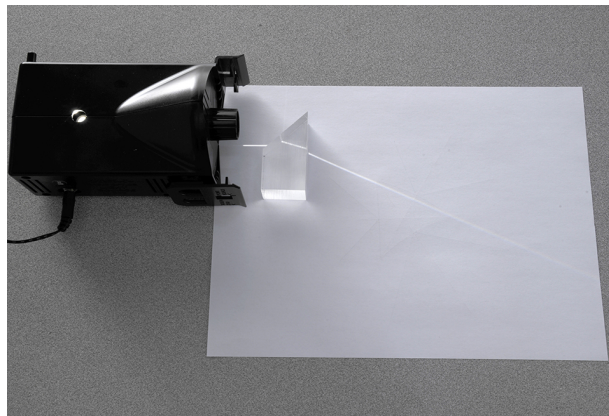

Figure 4: Single Ray of Light
5. Place the basic optics light source flat on the lab table and rotate the knob on the front of the light source to produce a single ray of light as shown in Figure 4.